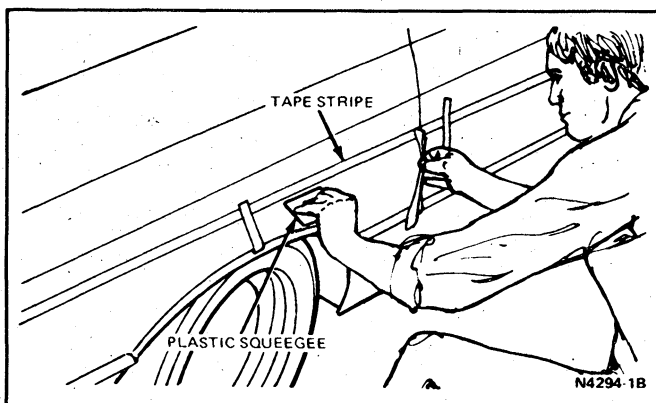

FIG. 3 Installing Tape Stripe with Squeegee
4. Stretch striping into desired location but away from the sheet metal. Using squeegee (plastic), start from center of panel and press striping into position moving toward the end of the panel (Fig. 3).
5. Using squeegee and firm overlapping pressure, begin from center of tape stripe and squeegee toward the sides and then toward the front (Fig. 3). The tape stripe can be easily lifted and reapplied if air bubbles are present.